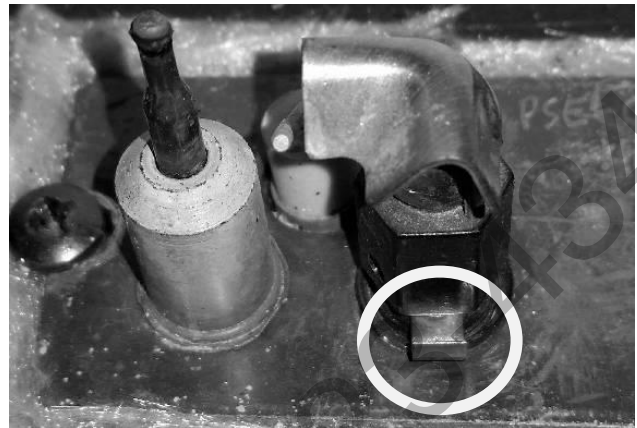

Figure 28 – Pilot in NG (Pilot Gate forward)
3. Look at the front edge of the base of the pilot tower. You will see the NG/LP Pilot Orifice Gate protruding toward the front of the pilot tower and the letters "NAT" should be visible on the upper horizontal surface (see figure 28). Slide the gate backward in the Pilot Tower by pushing on the upturned edge by the "NAT" lettering until the upturned edge is flush with the Pilot Tower surface. You will see the NG/LP Pilot Gate protruding from the back edge of the Pilot Tower and the letters "LP" will be visible, separated by a punched hole.